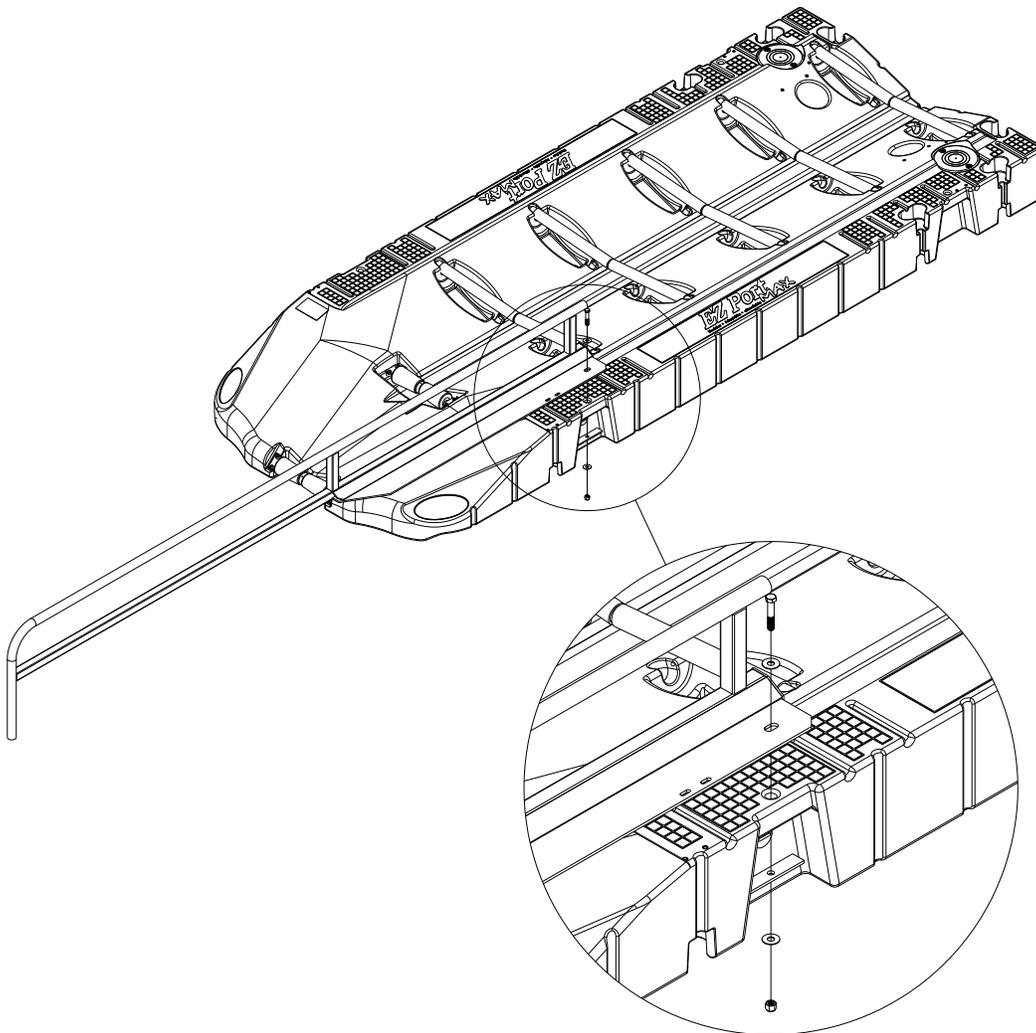

Figure 3
- Place a 1/2" washer on a 1/2-13 x 2 3/4" hex head bolt and insert it through the large slotted hole on the rail assembly and larger hole in the port, see Figure 3.